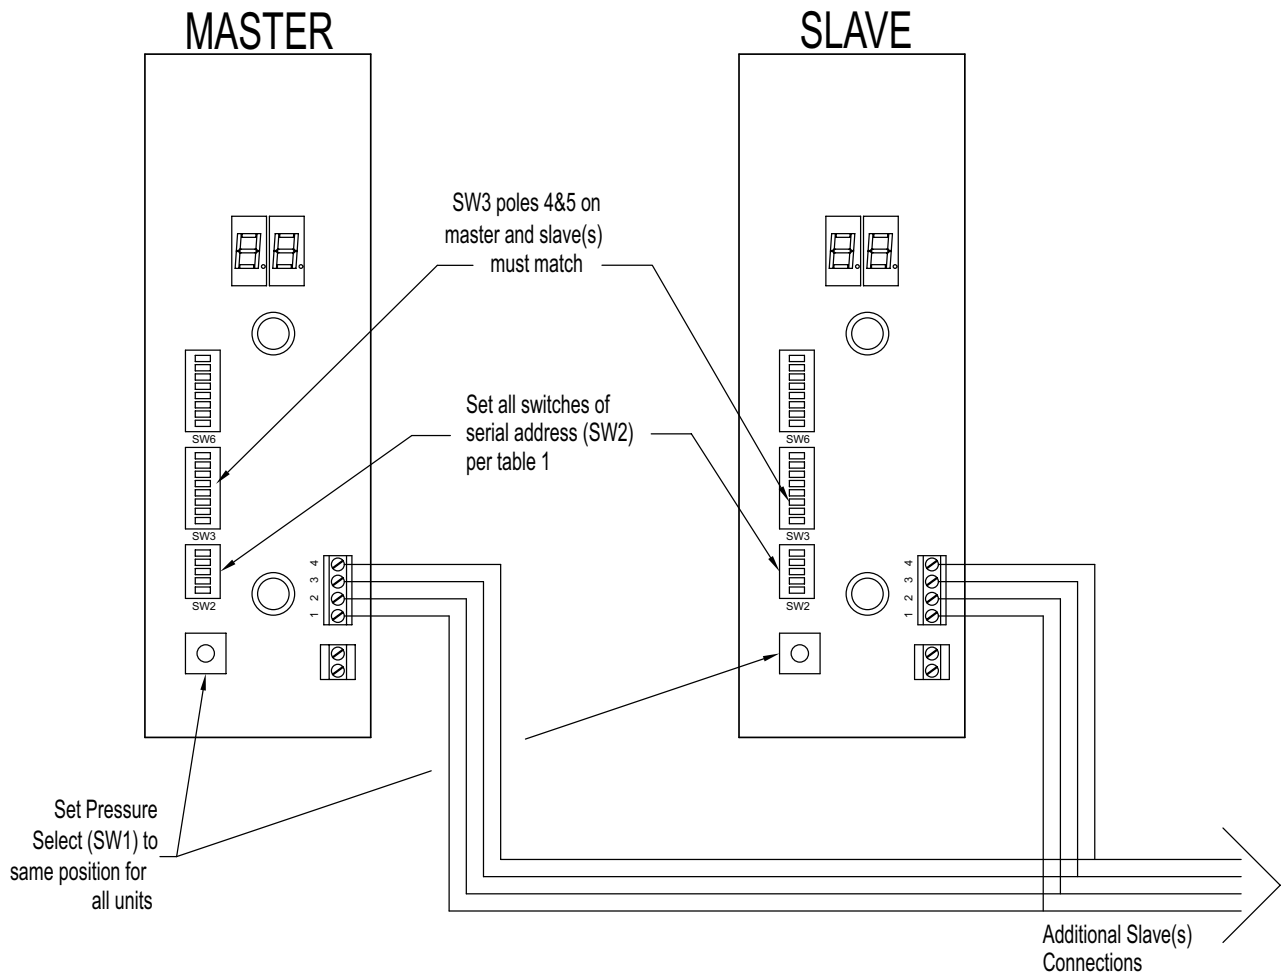

Figure 5: Setup Master/Slave Configuration
See Figure 5 wiring diagram for the RS485 connections.
18. Wire the RS485, connecting the master MagVFC to the slave(s) MagVFC as shown in Figure 5. Wire per NFPA 30A, and NFPA 70. For the signal wires, use at least 22 AWG (300V minimum) 4 conductor shielded cable with a drain and within a common jacket. Cut wires to length so that there is no excess wiring touching circuit board components.